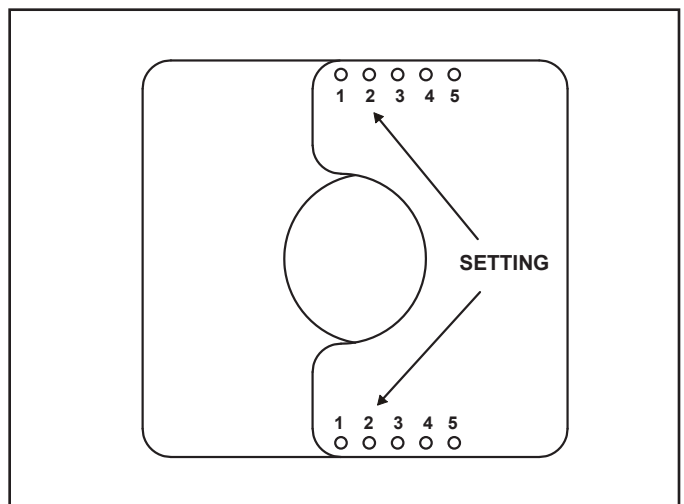

Figure 4.11 Set the Exhaust Restrictor
3. The setting for CRAVE4836, CRAVE6048, CRAVE7260 and CRAVE8472 is 2-2. Align the holes marked "2" on the numbered exhaust restrictor piece with the hole on the other exhaust restrictor piece. See Figure 4.11. Align the exhaust restrictor pieces with the pilot holes in the inner firebox chamber. Use two 1/2 inch self-piercing screws to secure vent restrictor to firebox heat shield.
2. The setting for CRAVE4836ST, CRAVE6048ST, CRAVE7260ST, and CRAVE8472ST is a 2.5 inch setting, or 2-2. Align the holes marked "2" on the numbered exhaust restrictor piece with the hole on the other exhaust restrictor piece. See Figure 4.11. Center the exhaust restrictor on the vent and secure in place with two 1/2 inch self-piercing screws.